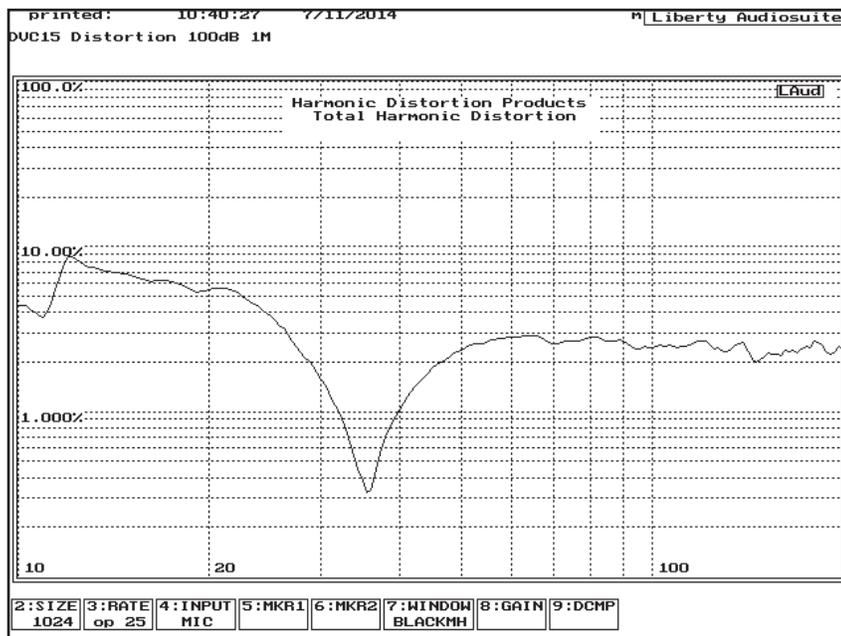

Figure 9: Dayton Audio DVC 15" driver's THD is measured at 100 dB at 1 m.
**Figure 9** shows the distortion measurements. The distortion is very low compared to the other drivers at the lower frequencies and never exceeded 10%. You will note that once above 27 Hz, the distortion